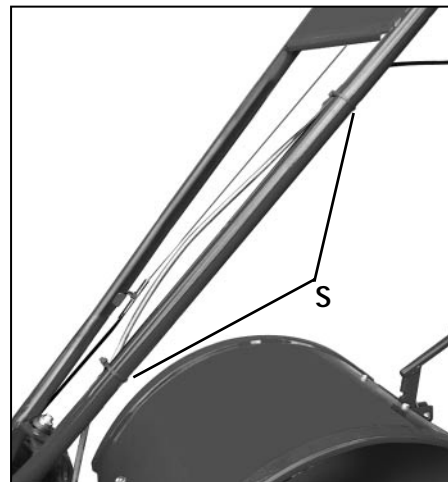

Figure 2-12: Attach wheel gear cable with cable ties (S).
4. Secure the wheel gear cable to the left-side handlebar with two plastic ties (S, Figure 2-12), located about two feet apart. Snip off any excess tie length with scissors.